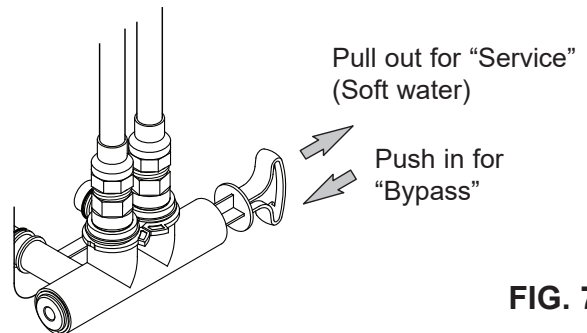
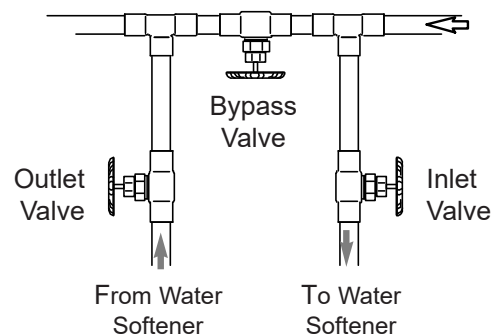

FIG. 7
FIG. 8
Always install either a single bypass valve (provided), as shown in Figure 7, or, if desired, parts for a 3 valve bypass system (not included) can be purchased and assembled, as shown in Figure 8. Bypass valves allow you to turn off water to the softener for maintenance if needed, but still have water in house pipes.
**CAUTION:** The house cold water pipe (metal only) is often used as a ground for the house electrical system. The 3-valve bypass type of installation, shown in Figure 8, will maintain ground continuity. If you use a plastic bypass valve at the unit, continuity is broken. To restore the ground, do the following:
2. Place the bypass valve (single or 3 valve) into the "bypass" position. See Figures 7 & 8 on Page 7.